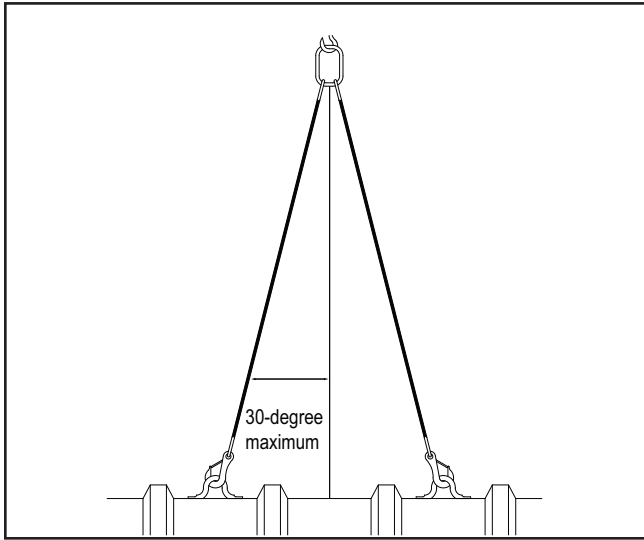
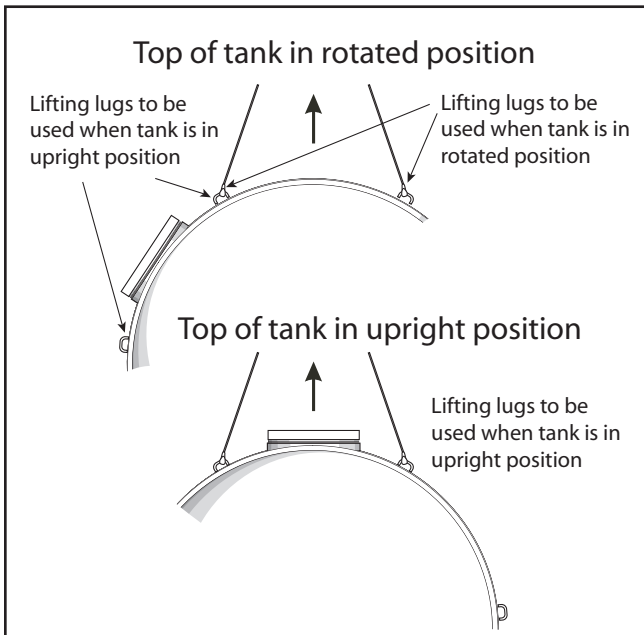

FIGURE 2-1
FIGURE 2-2
2.2.3. When hoisting the tank, follow these instructions—see *FIGURE 2-1* and *FIGURE 2-2*:
2.2.3.2. When using multiple lifting lugs, the angle of the lifting sling should never exceed 30 degrees—see *FIGURE 2-1*.
2.2.3.3. When the tank is not rotated (the tank is upright), use all lifting lugs to unload and install the tank. See *FIGURE 2-2*.
2.2.3.4. Some tanks are rotated on the truck for shipping purposes. These tanks have extra lifting lug(s) to aid in the loading/unloading process. See *FIGURE 2-2*.
2.2.3.4.2. To install the tank, carefully rotate the tank to its upright position and then use all lifting lugs situated on top of the tank in its upright position. See *FIGURE 2-2*.